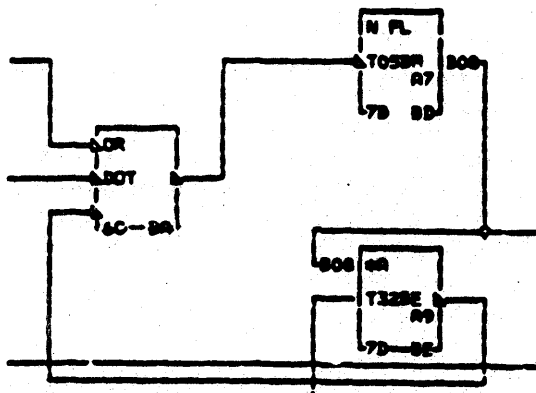

Figure 47. Flip Flop and Flip Latch
The basic SLT logical storage blocks (Figure 47) are the flip flop (FF), the flip latch (FL), and the polarity hold (PH). Each may be a single circuit or a combination of individual AND, OR, and inverter circuits.